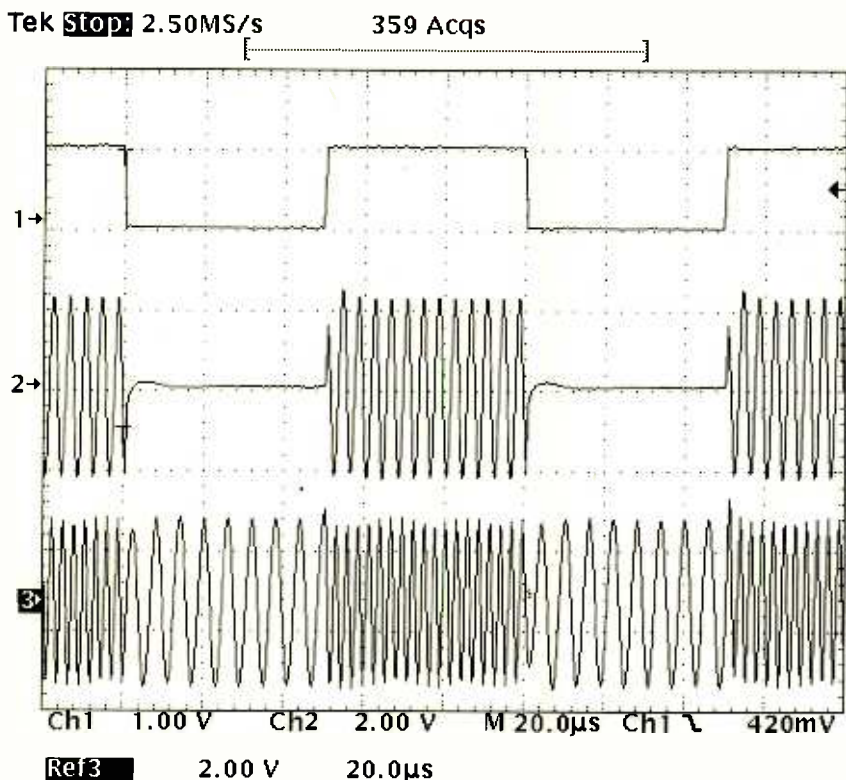
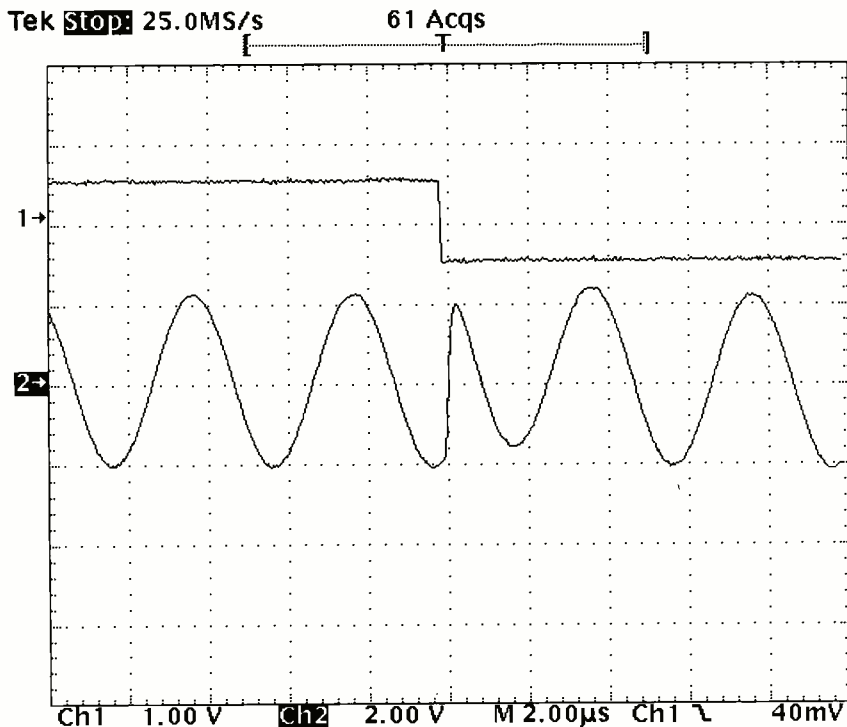

Fig. 1. ASK modulation (middle trace) and FSK modulation (bottom trace) are shown here. The top trace is the modulating signal.
Fig. 2. An example of PSK modulation. Note the much shorter horizontal time scale as compared to Fig. 1.
**ASK and FSK.** Morse code-modulated signals would be known today as Amplitude Shift Keying or ASK. With ASK, the carrier is keyed between two discrete levels. Although any two carrier values could be used, for maximum efficiency these levels are keyed between full carrier and no carrier. This can be seen in Fig. 1, where ASK is shown in the middle trace and the modulating (digital) signal is shown at the top trace.
With Frequency Shift Keying or FSK, the carrier is always on, as shown in bottom trace of Fig. 1. In that sample trace, the frequency shifts have been exaggerated for the sake of clarity.
**Enter PSK.** Phase Shift Keying was the next logical development, and it is what has allowed today's high-speed modems. In PSK, the carrier is subjected to abrupt phase changes as the modulation varies. This is shown in Fig. 2. Note that in the figure, the phase shift is a full 180 degrees, but the horizontal scale has been expanded with regard to the scale used in Fig. 1 to allow the modulation to be clearer.